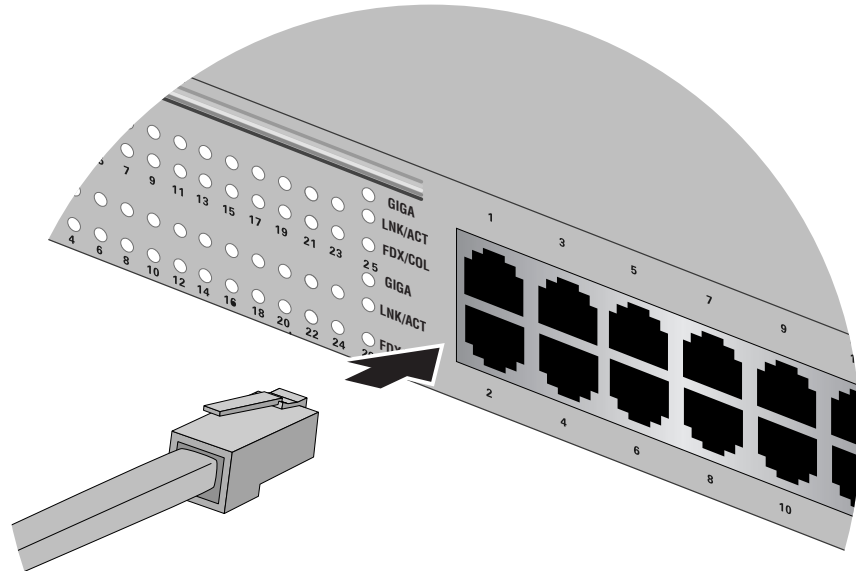

Figure 28 Connecting the Data Cables
1. Connect the data cables to the RJ-45 ports on the switch, as shown in Figure 28.